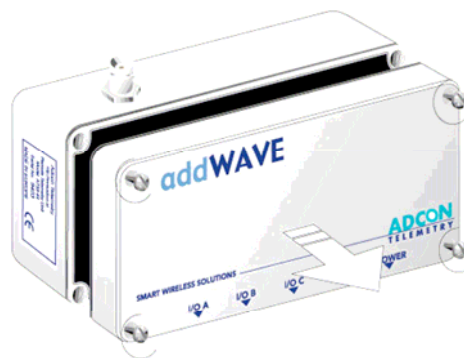

Fig. 6: Removing the A73x Lid
1. Open the lid by unscrewing the four screws in the corners of the A73x RTU, then remove the lid as shown in Fig. 6.